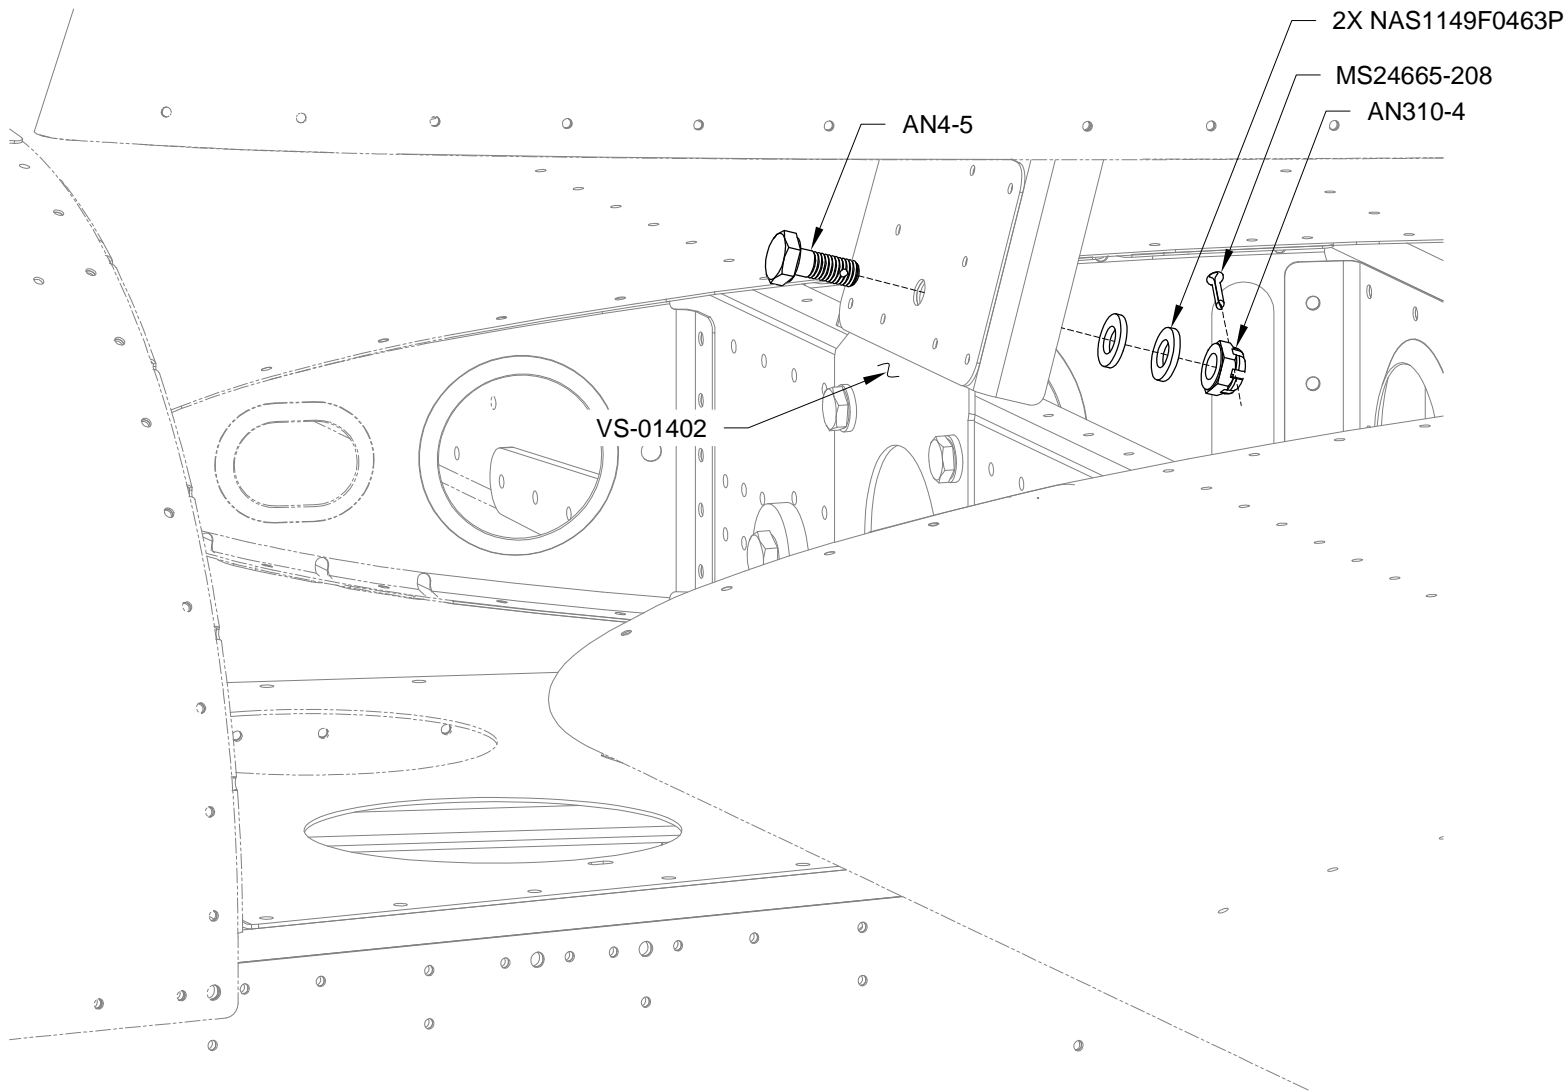

FIGURE 1: VERTICAL STABILIZER FRONT SPAR ATTACHMENT
Step 2: Bolt the front spar of the Vertical Stabilizer to the VS-01402 Vertical Stabilizer Bracket using the hardware called out in Figure 1.